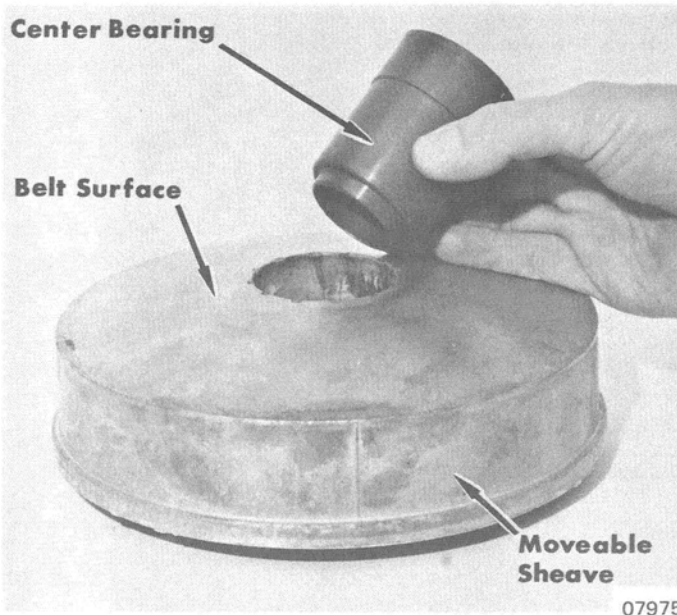
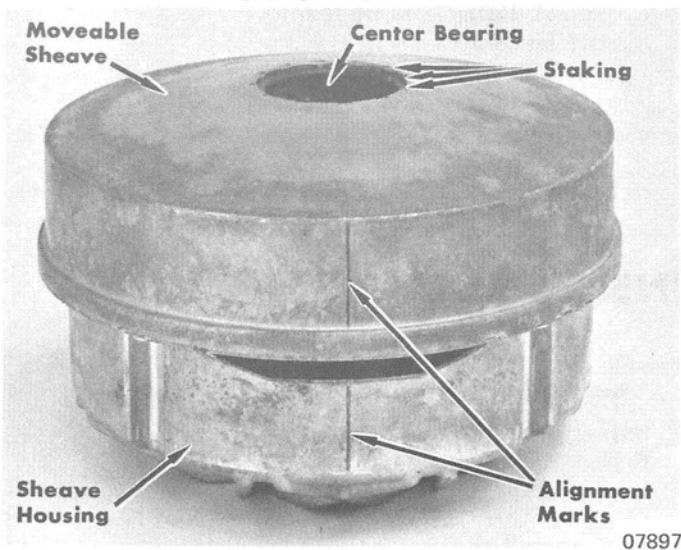

Figure 5. Installing Plastic Center Bearing
Figure 6. Drive Sheave Reassembly
- f. If removed, install new center bearing as shown in Figure 5. Stake moveable sheave on belt surface side to secure bearing. (Figure 6)
- Match alignment marks (straight line) on sheave housing and moveable face. (Figure 6) Install moveable face onto sheave housing.